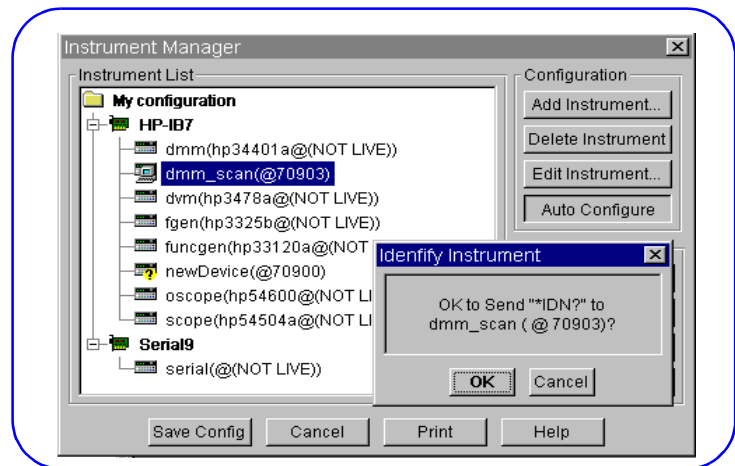

Figure 37. HP VEE Instrument Manager - Auto Configure
- 4 To verify communication with the HP E1411B, highlight the *dmm_scan (@70903)* line and then click *Auto Configure* to display an *IDN? message box similar to Figure 37.